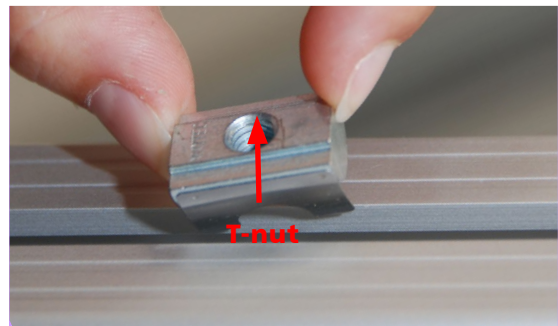

fig. 3.2-7
**Step 6** In order to attach the profile angles **A2e**, you will need sixteen (16) fillister head screws with flange **M6x14** (2 per angle) and sixteen (16) T-nuts **M6..** Measure the long frame profile **A2c** which you have just mounted to the shield. There are **930 mm | 36.61 inch** from to inner edge of the side supports to the middle of the screws the profile angles will be screwed on with. Now place two (2) T-nuts in the lateral lead channel of the long frame profile (the shield just clicked into the lead channel at the other side of the frame profile). Insert the T-nuts by half-twisting them into the lead channels with the swivel ball ahead and align them appropriately (**fig. 3.2-7**).